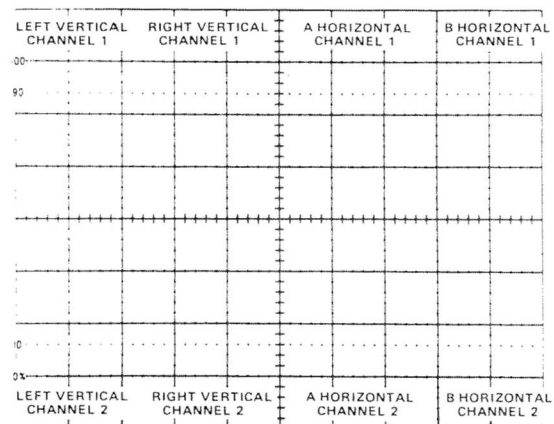
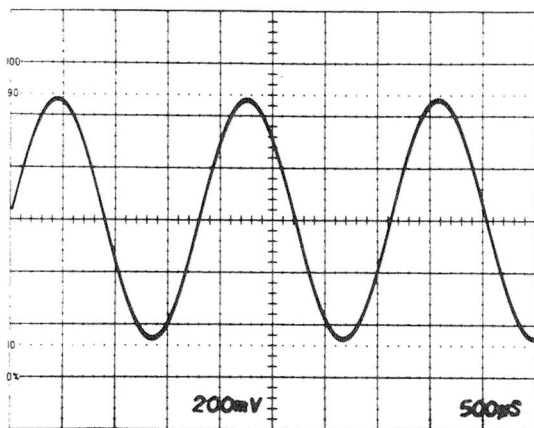

Fig. 1-23. Location of readout words on the CRT identifying the originating plug-in and channel (one complete frame shown, simulated readout).
Fig. 1-25. Typical readout display where only channel 2 of the Right Vertical and B Horizontal units is displayed.
Frame—A frame is a display of all words for a given operating mode and plug-in combination. Up to eight words can be displayed in one frame. Figure 1-23 shows the position of each word in a complete frame.
Up to eight words of readout information can be displayed on the CRT. The position of each word is fixed and is directly related to the plug-in unit from which it originated. Figure 1-23 shows the area of the graticule where the readout from each plug-in unit is displayed. Notice that Channel 1 of each plug-in unit is displayed within the top division of the CRT and Channel 2 is displayed directly below within the bottom division. Figure 1-25 shows a typical display where only Channel 2 of the Right Vertical and B Horizontal units is selected for display.
The Format Generator stage provides the output signals to the vertical and horizontal deflection systems of the instrument to produce the character display. The binary Channel Address Code from the Channel Counter stage is connected to this stage, so that the display from each channel is positioned to the area of the CRT associated with the plug-in and channel originating the word (see Fig. 1-23). The positioning current or decimal point location current generated by the Decimal Point Logic and Character Position Counter stage is added to the Horizontal (X) signal at the input to the Format Generator stage to provide horizontal positioning of the characters within each word. The X- and Y-Readout signals are connected to the Horizontal Amplifier and Vertical Amplifier through the X- and Y-Buffer stages.